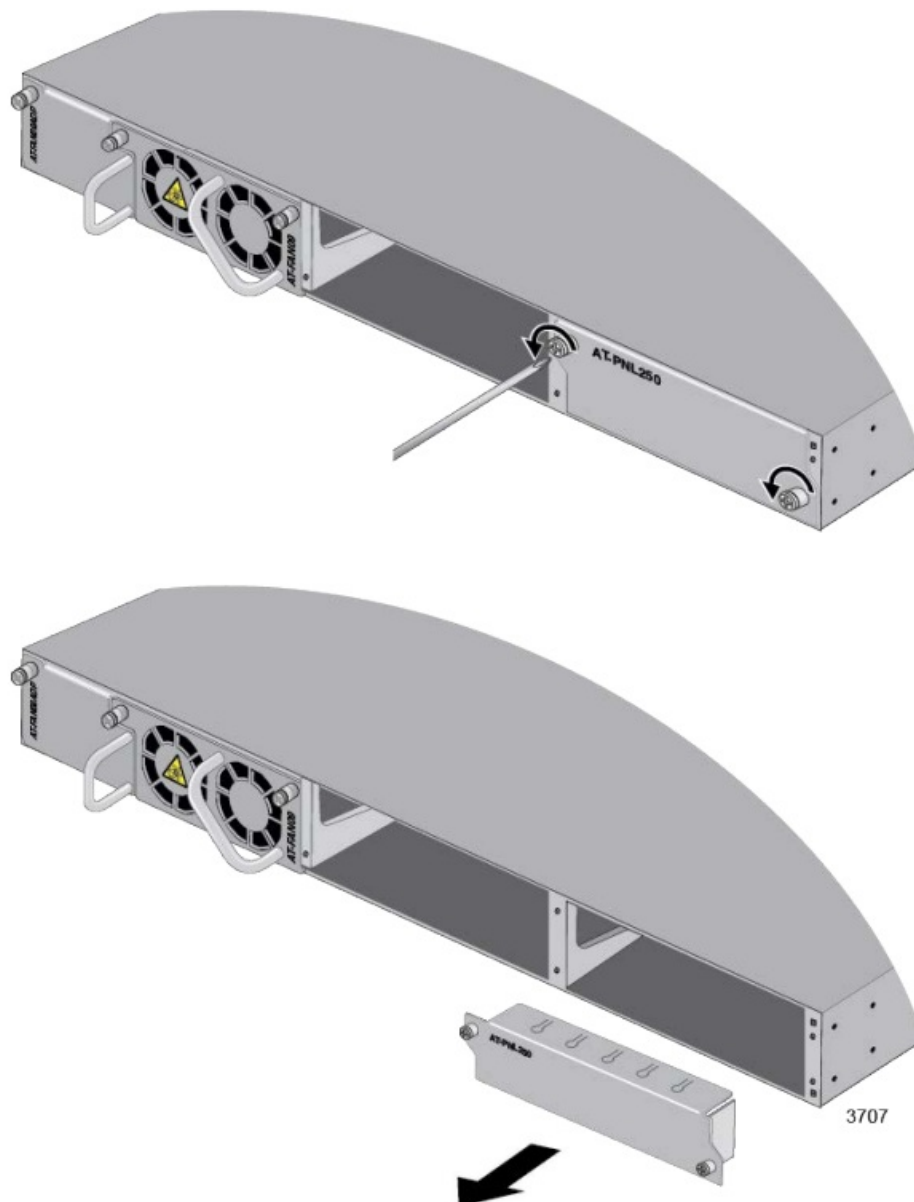

Figure 20. Removing the Blank Panel
2. Use a cross-head screwdriver to loosen the two captive screws on the blank panel covering power supply slot B on the back panel and remove it from the switch. Refer to Figure 20 on page 69.